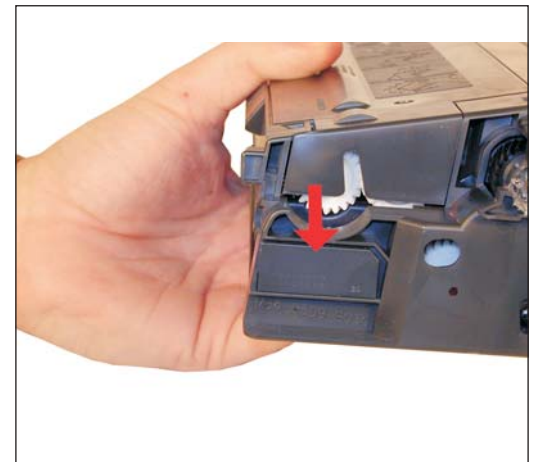

Figure 100
63) Replace the chip on the cartridge. Be sure to use the correct color chip for your cartridge. See Figure 100